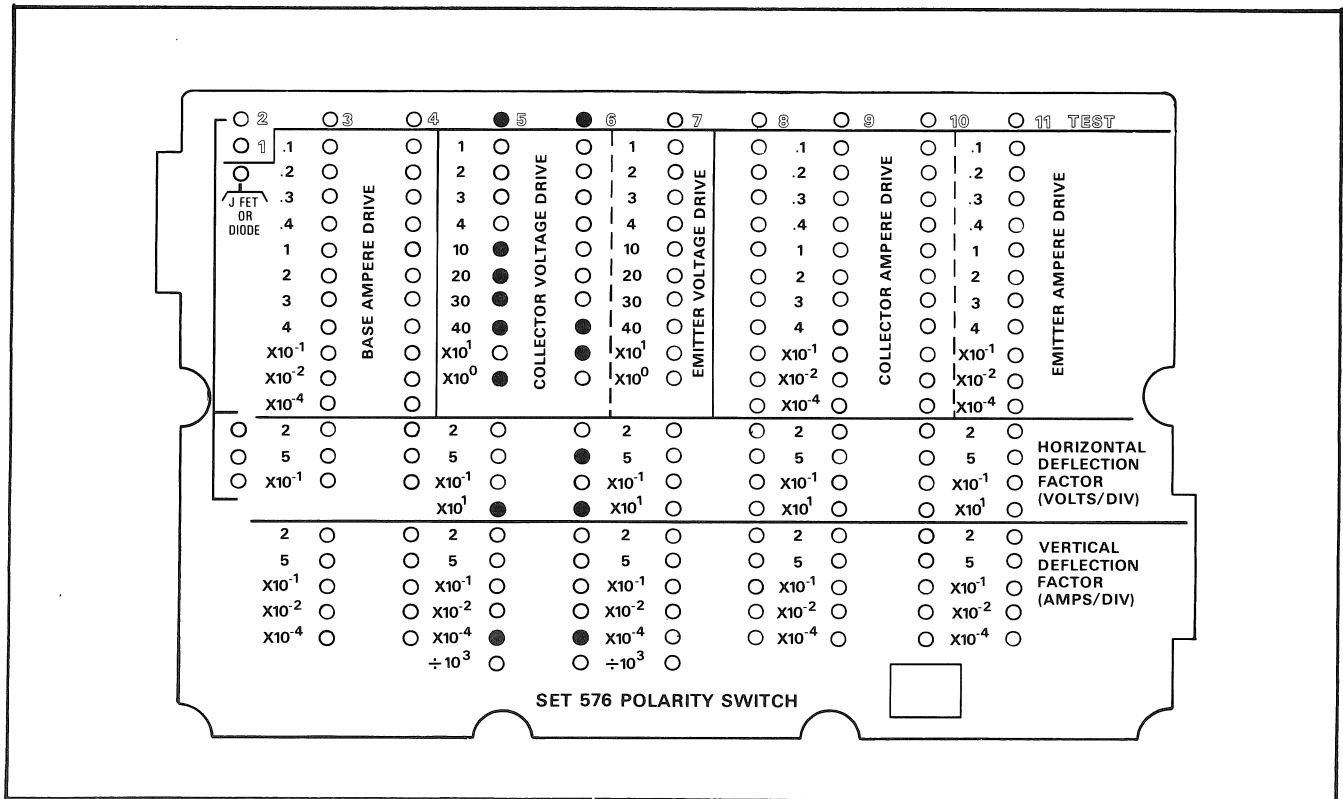

Fig. 5-16. Program 16.
a. Install a card containing program 16 (Fig. 5-16) in the card reader.